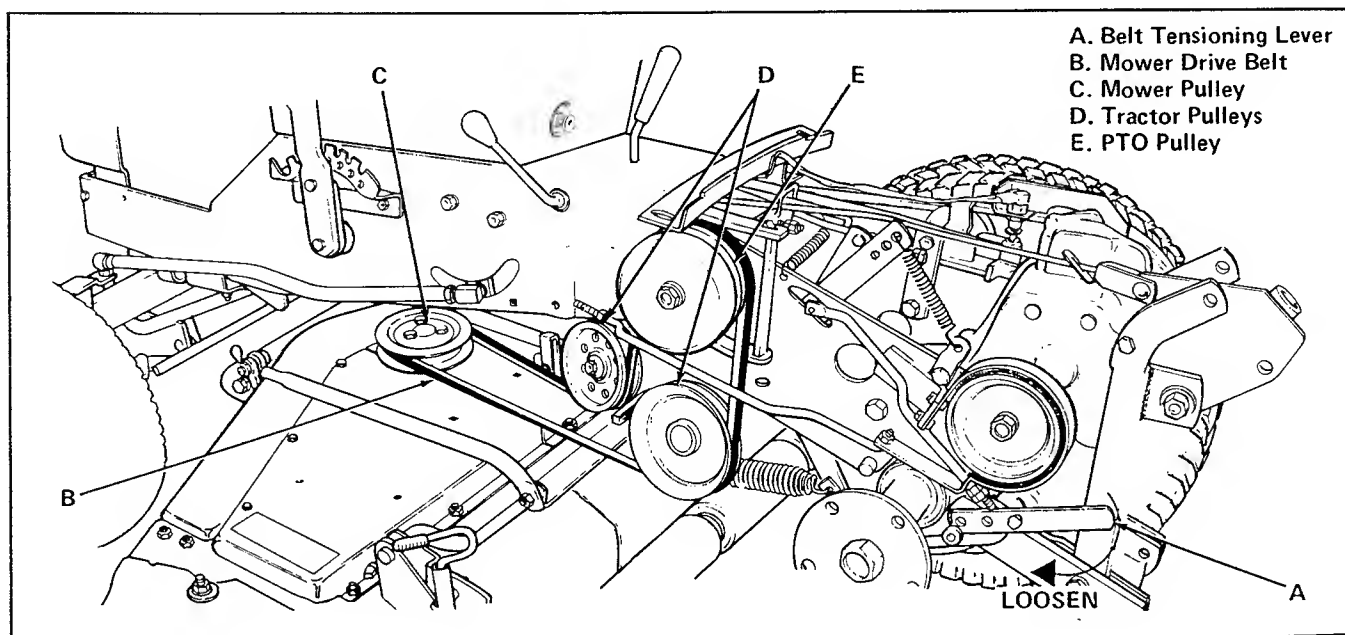

Figure 9. Install Mower Drive Belt (Foot Rest and Wheel Removed for Clarity)
8. Push belt tensioning lever (item A, figure 9) fully down and forward.
10. Install mower drive belt (item B) over mower pulley (C) and tractor pulleys (D and E). Belt must ride in inner groove of PTO pulley (E).